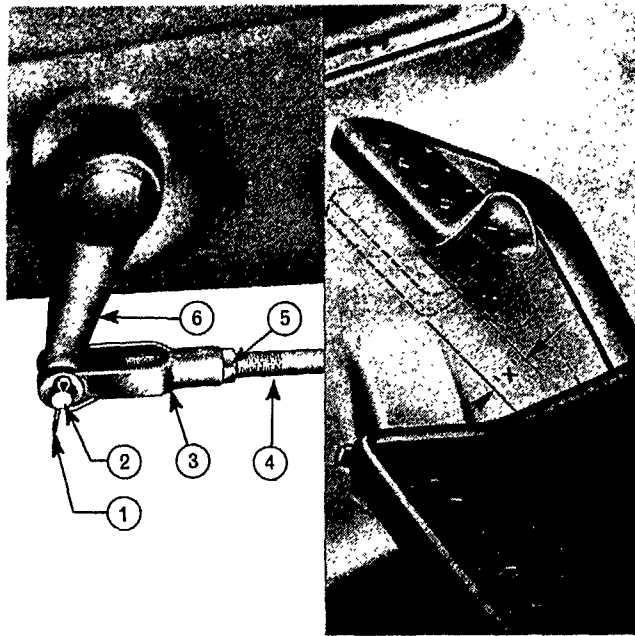

Figure 15
The only routine adjustment required is to check and, if necessary, adjust the clutch pedal free travel every 100 operating hours. The exact amount of free travel is listed under "SPECIFICATIONS", Chapter 4, and it should be noted that it varies in accordance with the model concerned and whether a previous or a current type clutch is incorporated. Clutch pedal free travel is the amount of movement from the fully released position of the pedal to the point where resistance is just felt — dimension "X", Figure 15.
1. Remove the split pin, Figure 15, loosen the locknut and then remove the clevis pin.
3. Re-connect the clevis to the clutch cross-shaft lever, Figure 15, and check the pedal free travel. Repeat the adjustment as necessary until the correct free travel is obtained then tighten the locknut and install a new split pin to retain the clevis pin.